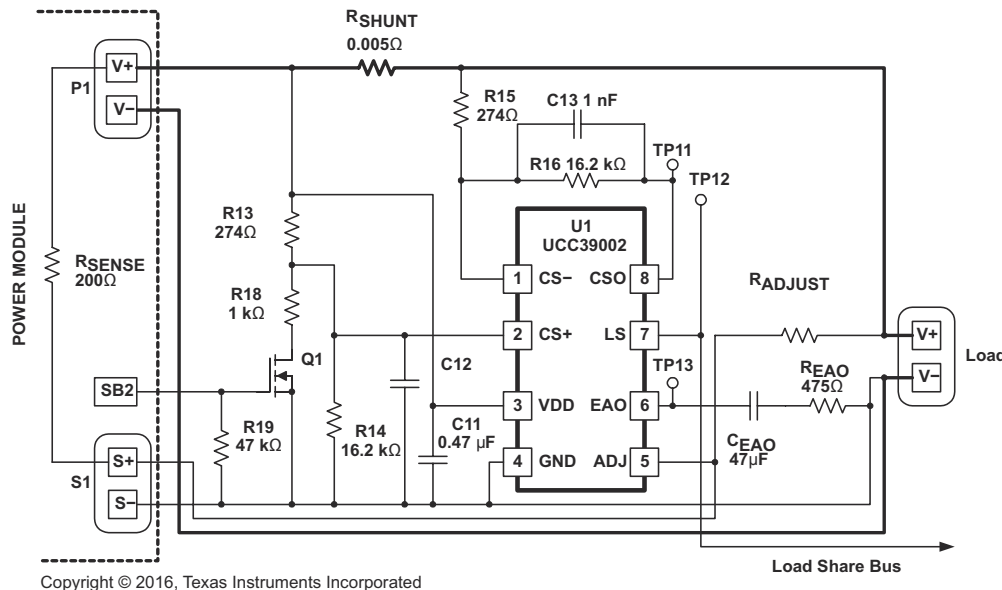

图 7-1. Typical High-Side Application for a Single Power Module
图 7-1 shows a typical high-side current-sense configuration for a single module which is repeated for each module to be paralleled. Direct connection of the VDD pin to the power module V_{OUT} rail (V+) is valid for V_{OUT} less than 13.5V.
In 图 7-1, P1 represents the output-voltage connector terminals of the module and S1 represents the remote-sense connector terminals of the module. In this example, a signal on the SB2 terminal enables the disconnect feature of the device. The Load-Share Bus is the common bus between all of the paralleled load-share controllers. The VDD supply must be decoupled with a good-quality ceramic capacitor returned directly to GND.
Referring to 图 7-1, the DC gain of the CSA is equal to $R16/R15$, and a high-frequency roll-off pole used for noise filtering is set by C13. These component values are repeated at R14, R13, and C12 on the CS+ pin of the differential amplifier, as shown.
where (referring to 图 7-1)
- A_{CSA} is the DC gain of the Current-Sense Amplifier. (R15, R16 refer to 图 7-1.)